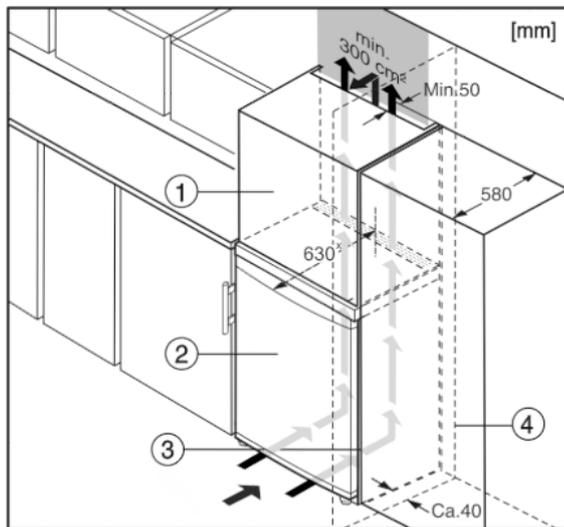

Fig. 5
- (1) Stack cabinet
- (2) Appliance
- (3) Kitchen cabinet
- (4) Wall
The appliance can be built into kitchen units. A top cupboard Fig. 5 (2) can be added above the appliance in order to bring the appliance Fig. 5 (1) up to the height of the fitted kitchen units.
When installing with kitchen units (max. depth 580 mm), the appliance can be positioned directly next to the kitchen cabinet Fig. 5 (3). The appliance will project by 34 mm* at the sides and 50 mm* in the centre of the appliance in relation to the kitchen cabinet front.
If the appliance is installed with the hinges next to a wall Fig. 5 (4), the distance between appliance and wall has to be at least 40 mm. This corresponds to the projection of the handle when the door is open.